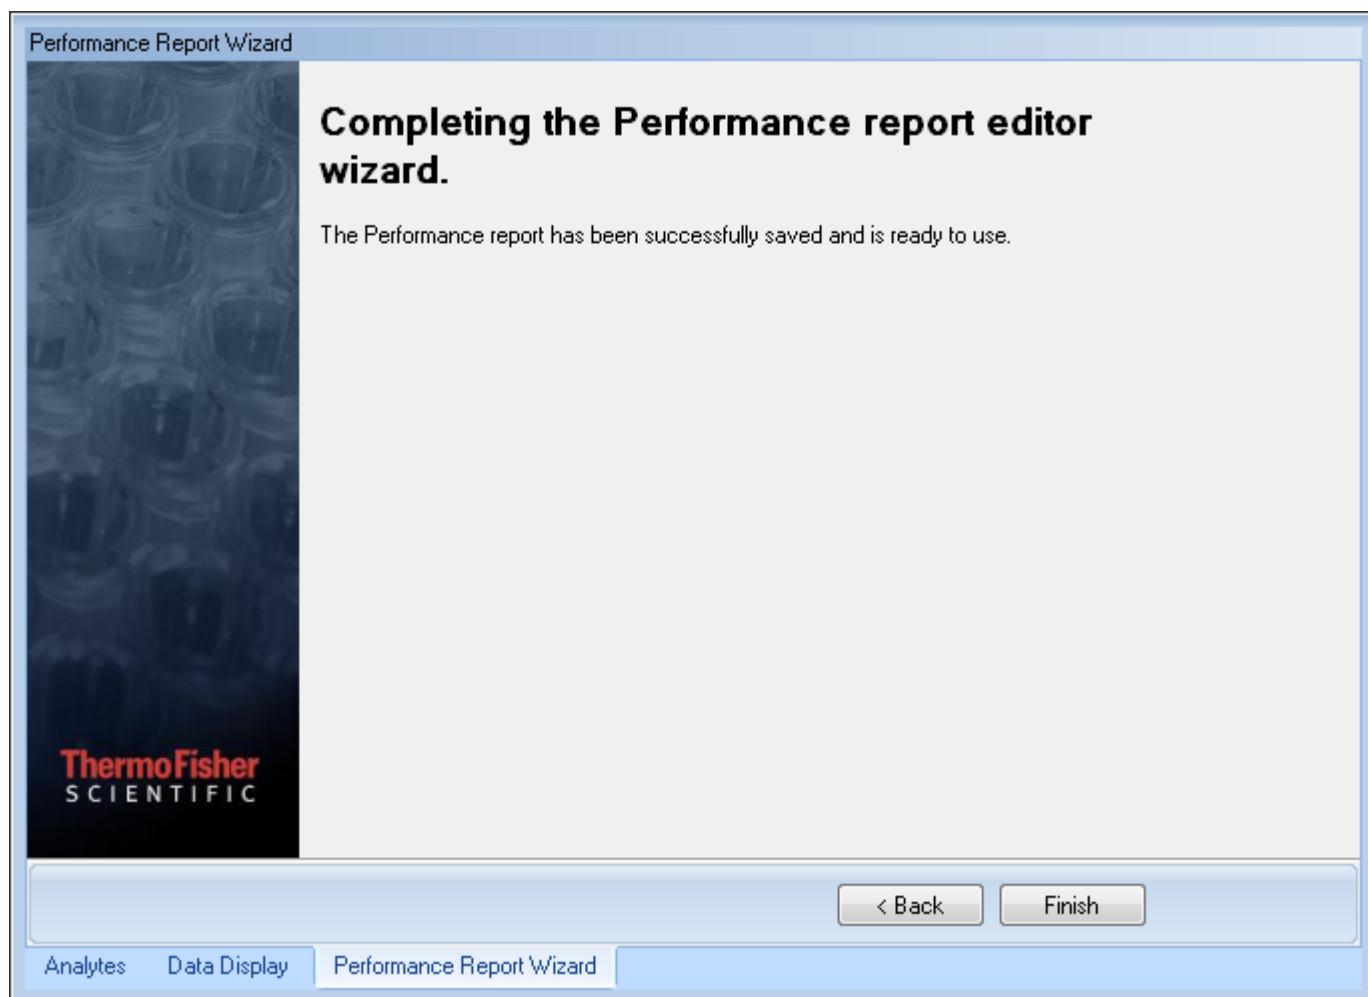

Figure 4-36. Completing the Performance Report wizard
16. Click **Finish** to complete the Performance Report Wizard, see Figure 4-36.